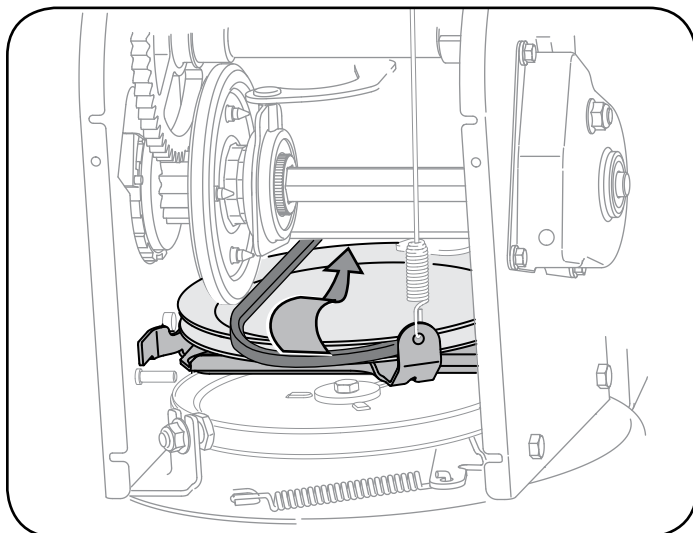

Figure 19
1. Remove the self-tapping screws from the frame cover underneath the snow thrower. Refer to Figure 19.
2. Slip the drive belt off the pulley and between friction wheel and friction wheel disc. See Figure 19.